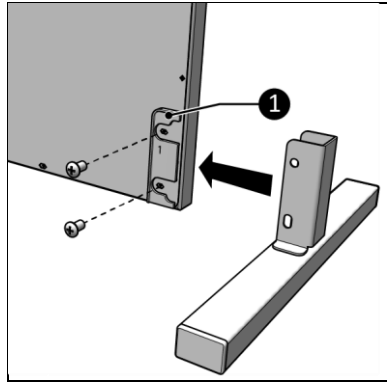

Figure 9
3. Place the supplied plastic plates on the back of the heater (Figure 9, pos. 9).